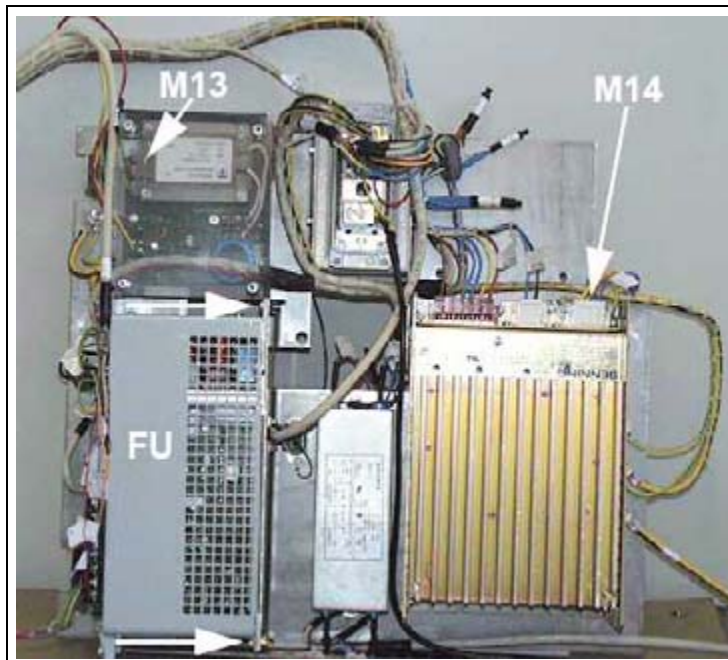

Fig. 28: FU
6. Replace the frequency converter after removing the Allen screws (Fig. 28 / p. 55).